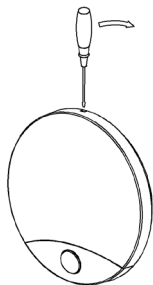

Figure 1
- Unload the plastic cover to open it. (refer to figure1,2)